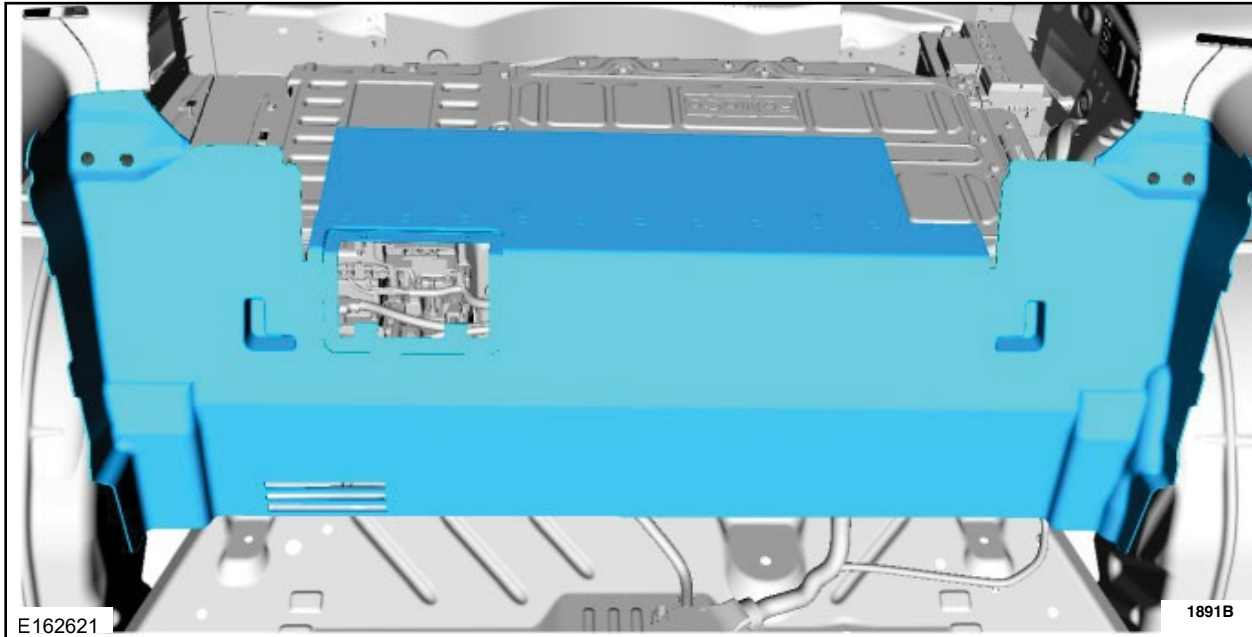

FIGURE 3
5. Remove the panel cover behind the rear seat. See Figure 3.